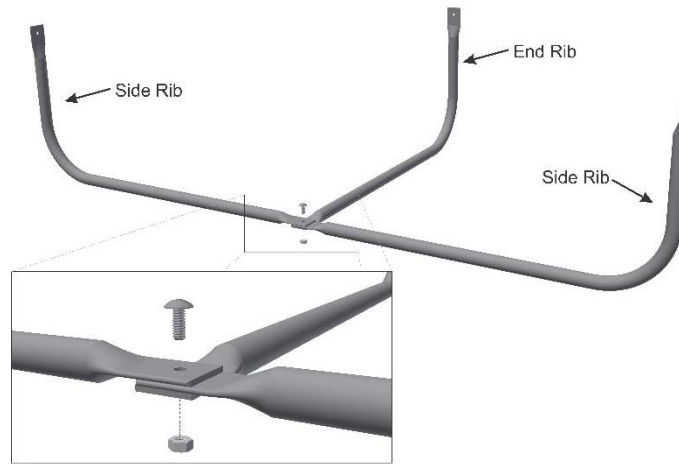

Figure 1
1. Take 3 rib sections and attach them as shown in Figure 1. **Note: The connection point for the end rib should be set under the two side ribs.**